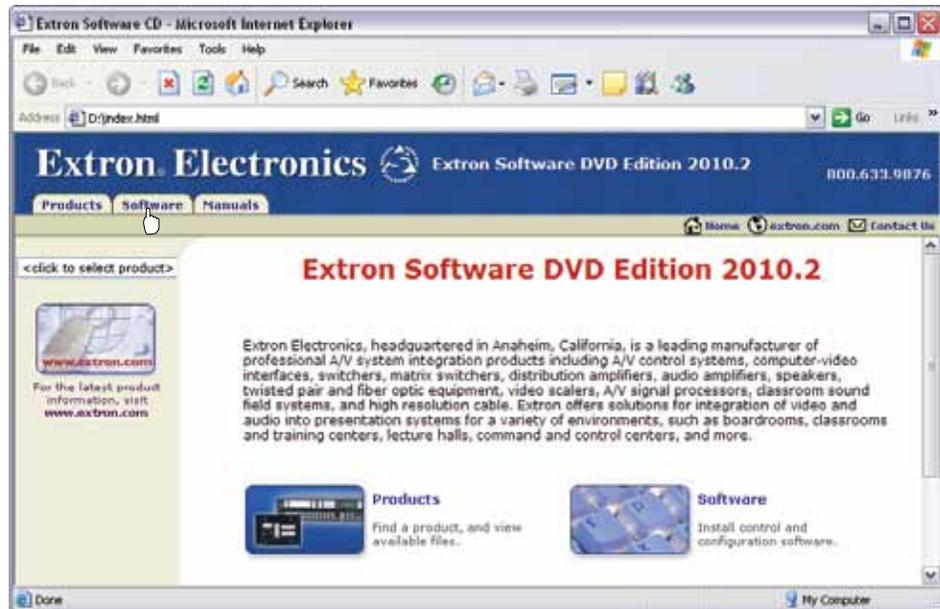

Figure 25. Software DVD Window
1. Insert the DVD into the drive. The Extron software DVD window should appear automatically (see figure 25).
2. Click the **Software** tab (see figure 25).